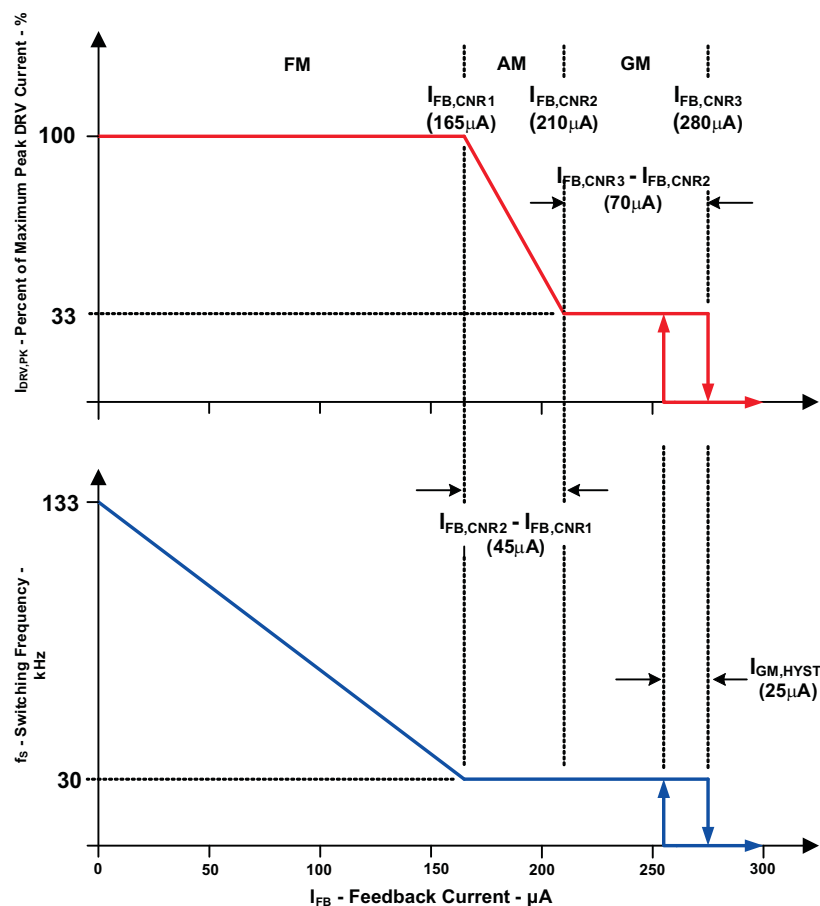

Figure 1. FB Electrical Condition Detail
(2) Refer to Figure 1.
(3) A latch-off or a shutdown and retry fault response to a sustained overload is selected by the range of R_{MOT}. To select the latch-off mode, R_{MOT} should be greater than 150 kΩ and t_{MOT} is given by R_{MOT} × (1.0 × 10^{–11}). To select the shutdown-retry mode, R_{MOT} should be less than 100 kΩ and t_{MOT} is given by R_{MOT} × (5.0 × 10^{–11}).